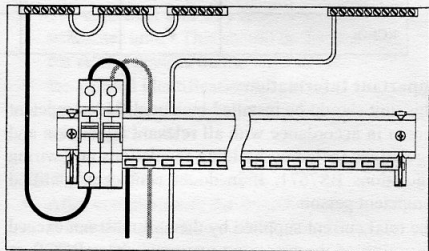

Fig 4.2
- Connect the pre-formed neutral connector to the main switch and the left-hand neutral bar. (Fig 4.2)